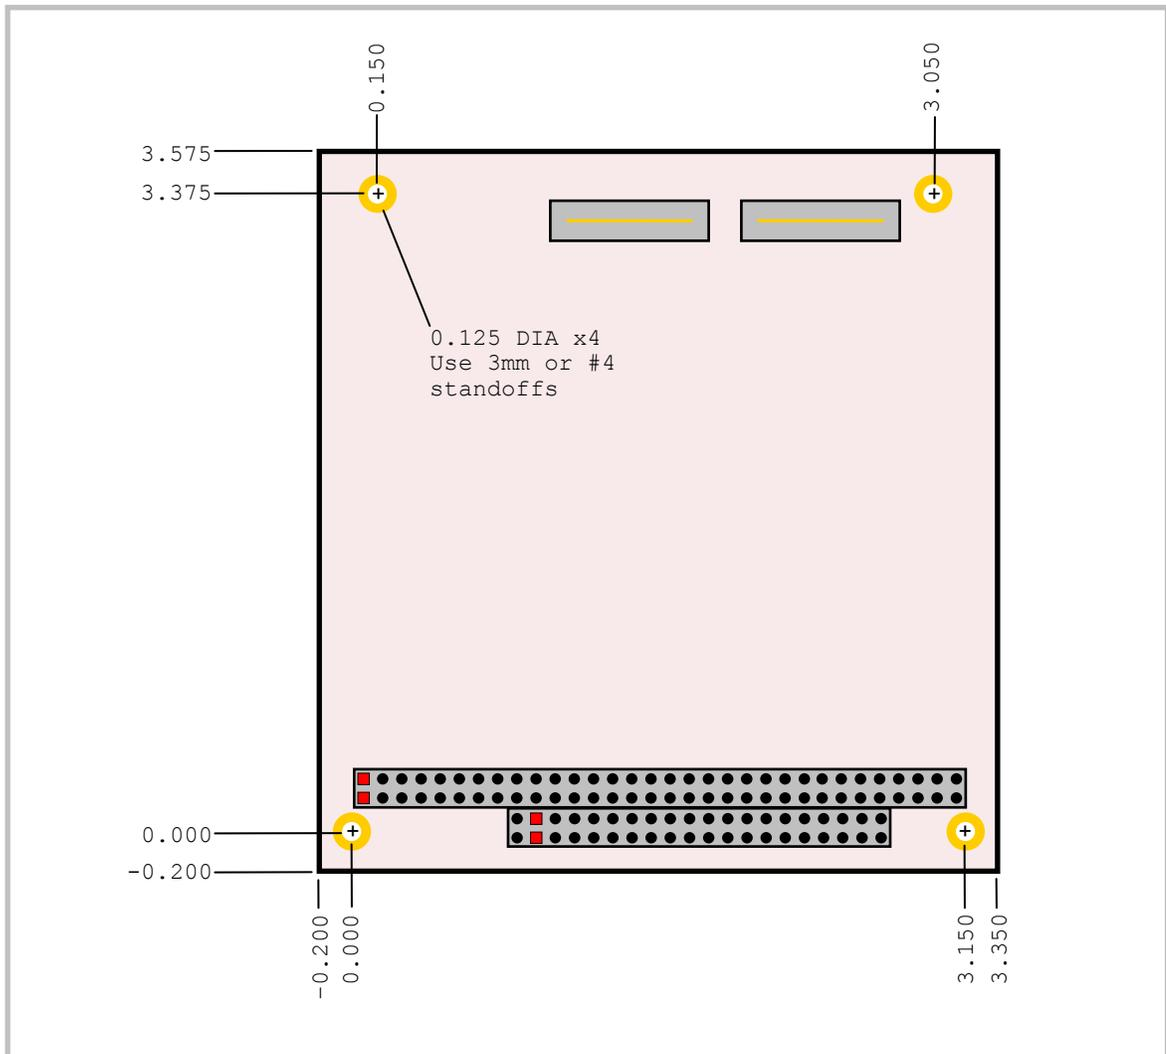

Figure 3. VL-EPMs-E1 Dimensions and Mounting Holes
1. The PCB origin is the mounting hole to the lower left, as oriented in Figure 3.